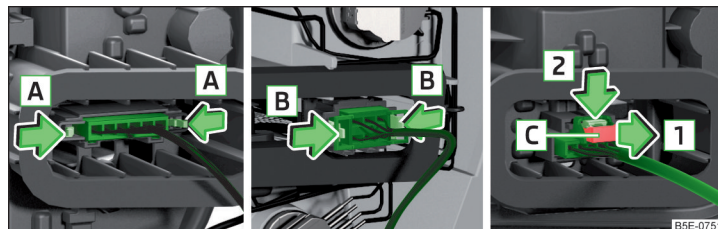

Fig. 361 Connector removal variants
The connector type varies according to the vehicle version » Fig. 361.
- › With a plug with removable safety tab, secure this in the opposite direction to the arrow **1** » Fig. 361.